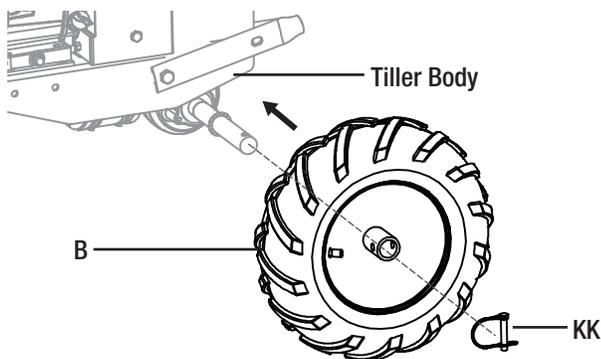

Figure 1-5
- Insert the wheel (B) through the axle on the tiller body. Then place the wheel pin (KK) through the hole on wheel through the hole on the axle to secure the wheel in place. See Figure 1-5.